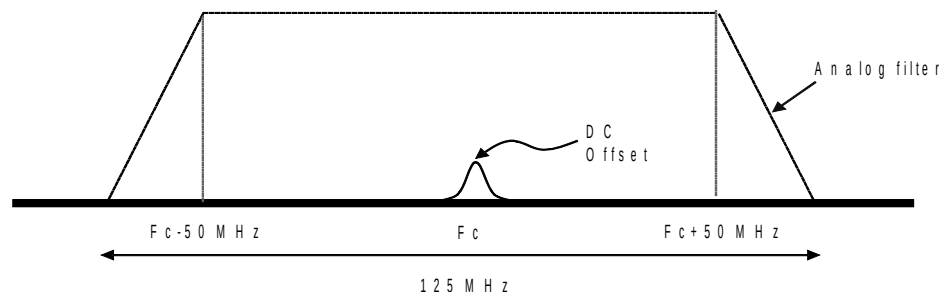

Figure 3: DC Offset with Amplitude Roll-Off at $\pm 50\text{MHz}$
The R57x0's WB ADC sampling rate is 125 MSa/s, intermediate frequency (IF) is 0 and the entire IF bandwidth is 125MHz. The analog filter results in an amplitude roll-off at approximately $\pm 50\text{MHz}$ around the center frequency F_c , as illustrated in Figure 3.